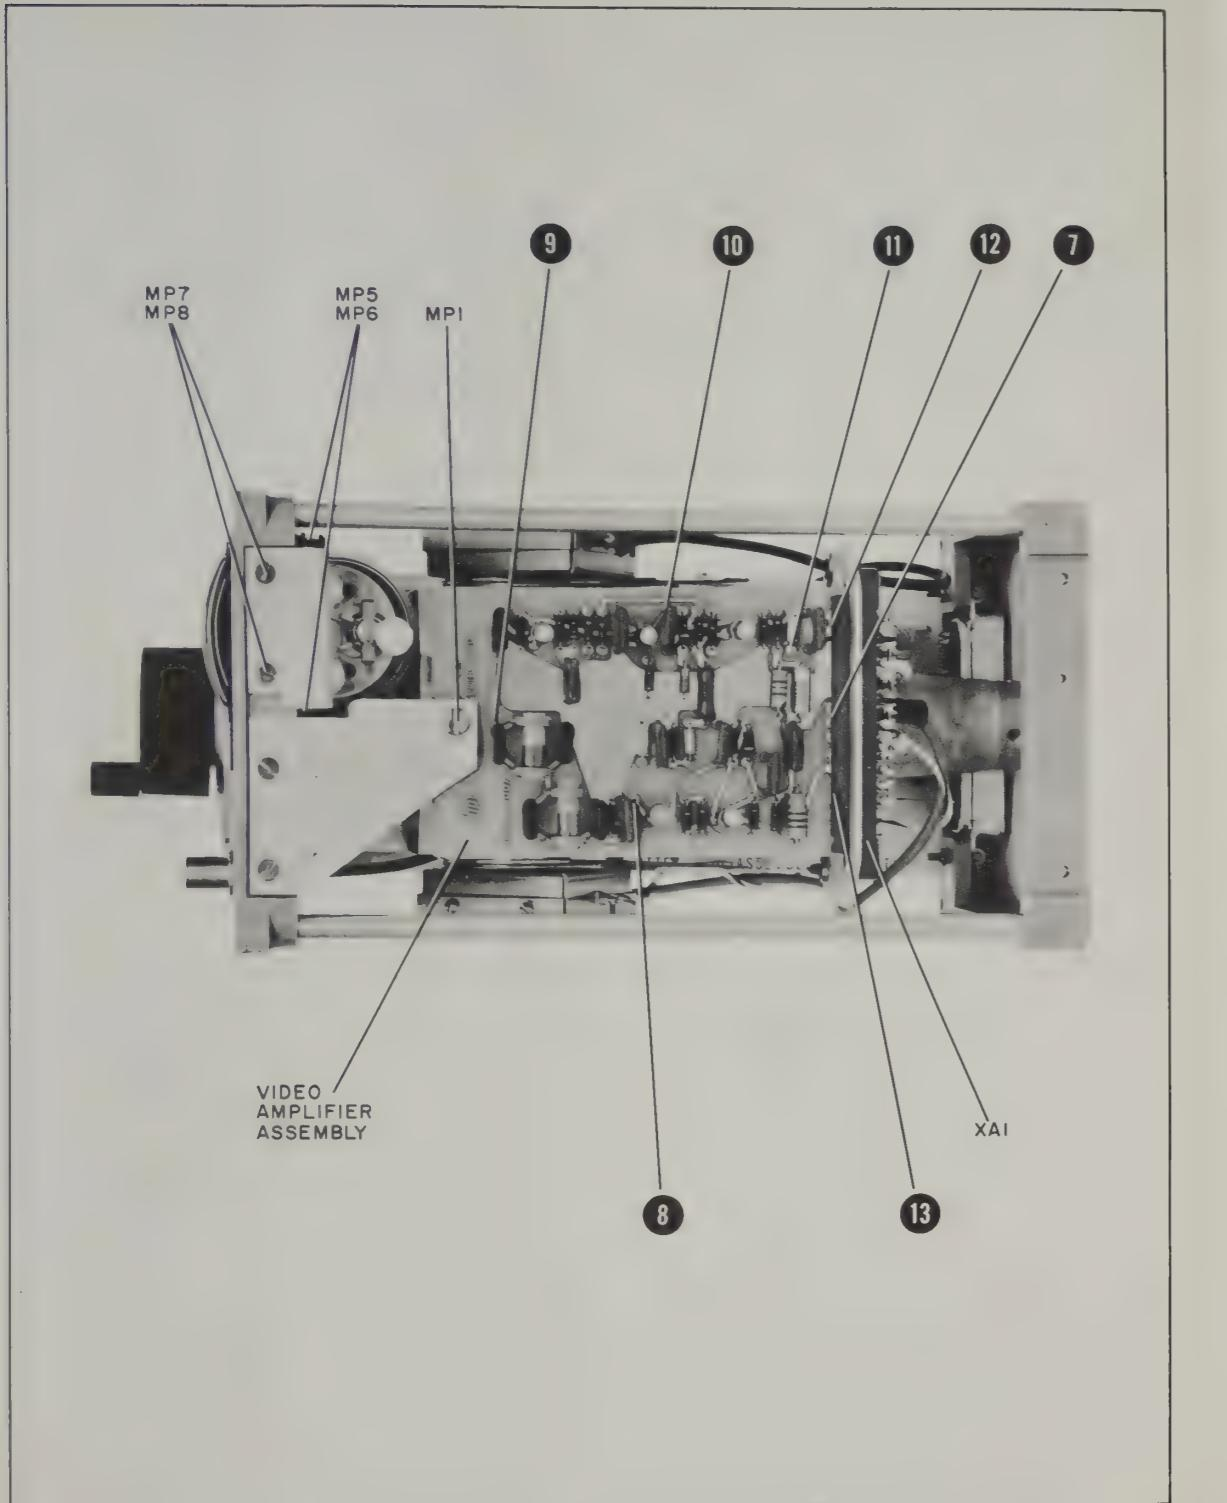

Figure 5-4. Top View - Test Points
- g. Remove screws (MP5, 6; see Figure 5-4) from meter bezel at sides of meter. Push bezel forward as far as possible.
c. Connect RF Millivoltmeter to Test Point #12 (see Figure 5-4).
c. Connect RF Millivoltmeter to Test Point #12 (see Figures 5-4 and 5-5).
- e. Using RF Millivoltmeter, measure output of converter at Test Point #12 (see Figures 5-4 and 5-5). Voltage should be at least 100 mv.